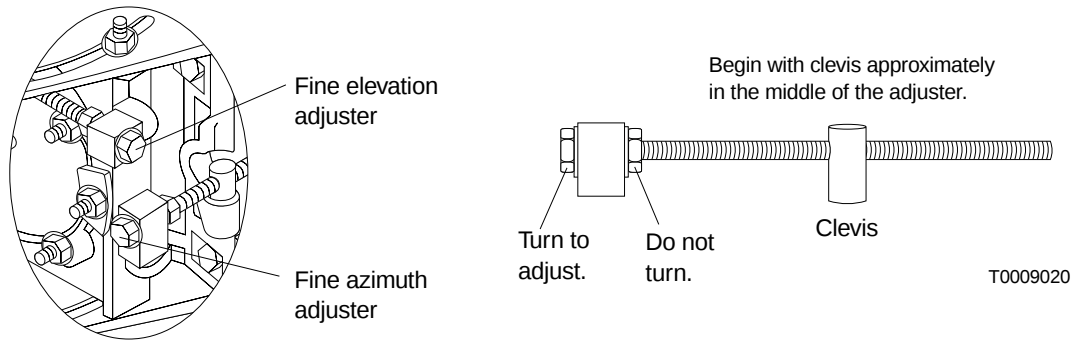

Figure 4-6 Fine azimuth and elevation adjusters
1. Turn the fine azimuth adjuster as necessary to position the clevis (barrel) approximately in the middle of the threaded part of the adjuster. See figure 4-6.
2. Turn the fine elevation adjuster as necessary to position the clevis approximately in the middle of the threaded part of the adjuster. See figure 4-6.